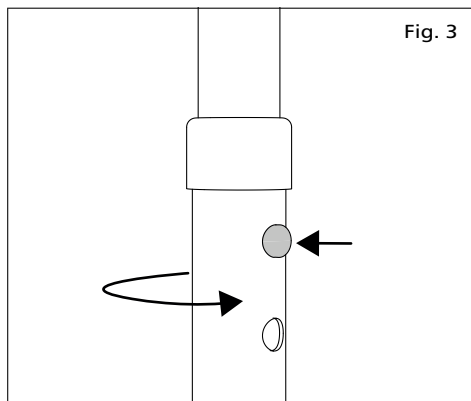

Fig. 3
1. Press in the spring pin of the first tube and twist the tube round very slightly so that it is free to move (Fig. 3).